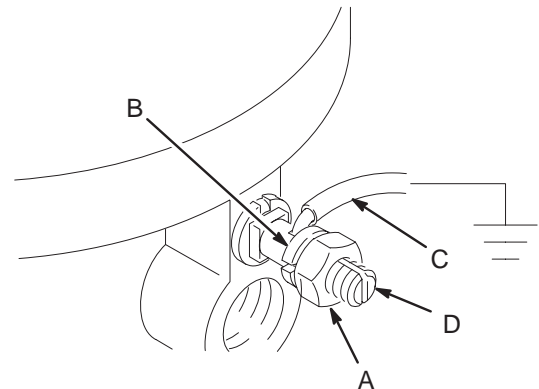

Fig. 1
Loosen grounding lug locknut [Fig. 1 item (A)] and washer (B). Insert one end of a 12 ga (1.5 mm²) minimum ground wire (C) into slot in lug (D) and tighten locknut securely. Connect other end of wire to true earth ground. To order a ground wire and clamp, order part number 222011.